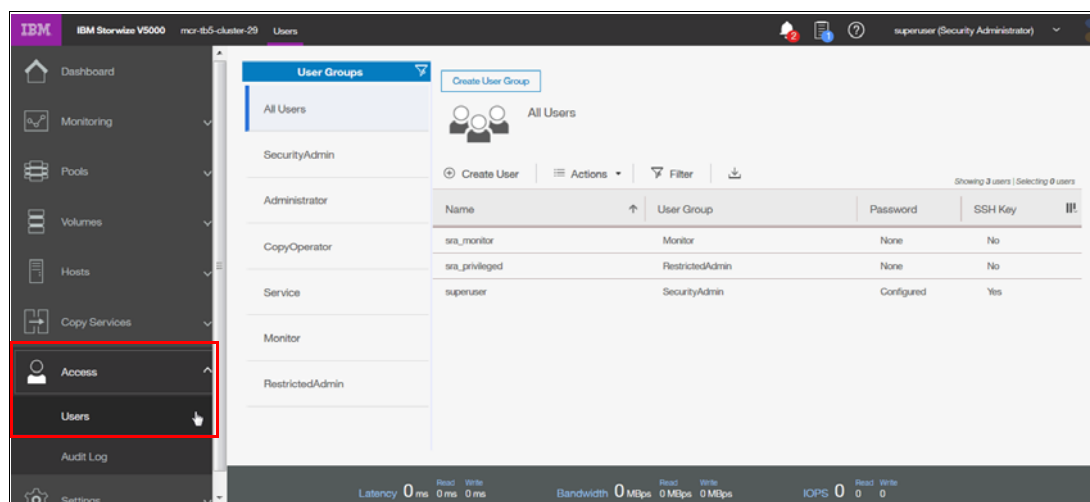

Figure A-6 Click Users on the Access menu
1. On the System Overview, click the **Access** functional icon and select **Users** in the GUI menu (Figure A-6).